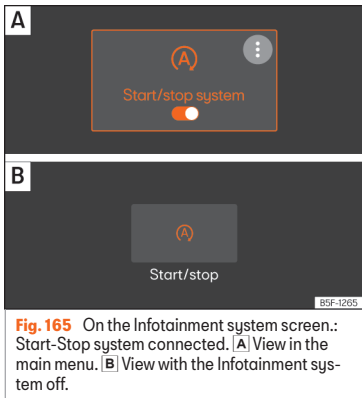

Fig. 165 On the Infotainment system screen.: Start-Stop system connected. [A] View in the main menu. [B] View with the Infotainment system off.
»» Fig. 165 the system is activated and will stop and start. When the symbol (A) appears in white the system is disconnected.